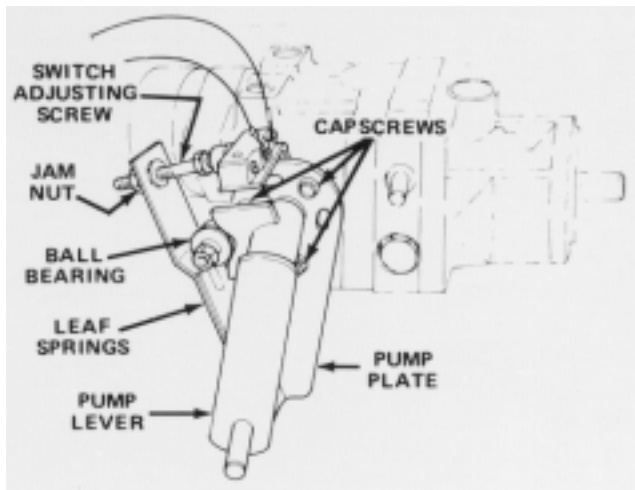

Figure 57
1. Park vehicle on a level surface and turn engine off. Apply the parking brake, tip seat forward, and actuate pump lever (Fig. 57) to ensure assembly is properly seated and operating freely. Correct any discrepancy.
6. Because the wheel is rotating, the pump plate must be adjusted. But before adjusting the pump plate, move throttle to SLOW. If wheel is rotating forward, loosen capscrews, and lightly tap bottom of pump plate counterclockwise (Fig. 57). By contrast, tap pump plate clockwise if wheel is rotating backward (Fig. 57). When wheel stops rotating, tighten capscrews holding pump plate against side of transmission. Verify the adjustment with throttle in SLOW and FAST position.
11. Because the wheel is rotating, the pump plate must be adjusted. But before adjusting the pump plate, move throttle to SLOW. If wheel is rotating forward, loosen capscrews, and lightly tap bottom of pump plate counterclockwise (Fig. 57). By contrast, tap pump plate clockwise if wheel is rotating backward (Fig. 57). When wheel stops rotating, tighten capscrews holding pump plate against side of transmission. Verify the adjustment with throttle in SLOW and FAST position.
- Ball bearing is loose or worn out (Fig. 57).
- Weak or damaged leaf springs (Fig. 57). Replace.
2. Actuate the pump lever (Fig. 57) to ensure all parts are operating freely and seated properly.
3. Loosen jam nut. Rotate switch adjusting screw (Fig. 57) until there is a gap between head of screw and switch button.